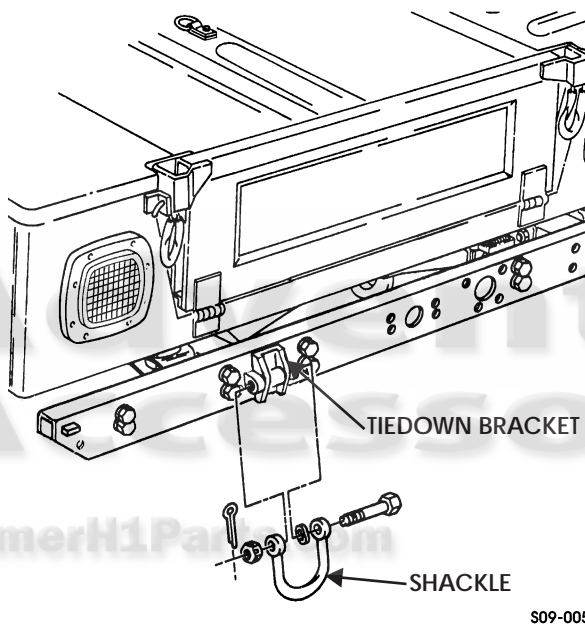

Figure 9-17: Lifting Shackle
Remove cotter pin, slotted nut, capscrew, spring washer, and shackle from tiedown bracket. Discard cotter pin (Figure 9-17).
1. Install shackle on tiedown bracket with spring washer, capscrew, and slotted nut. Tighten slotted nut enough to allow movement of shackle (Figure 9-17).